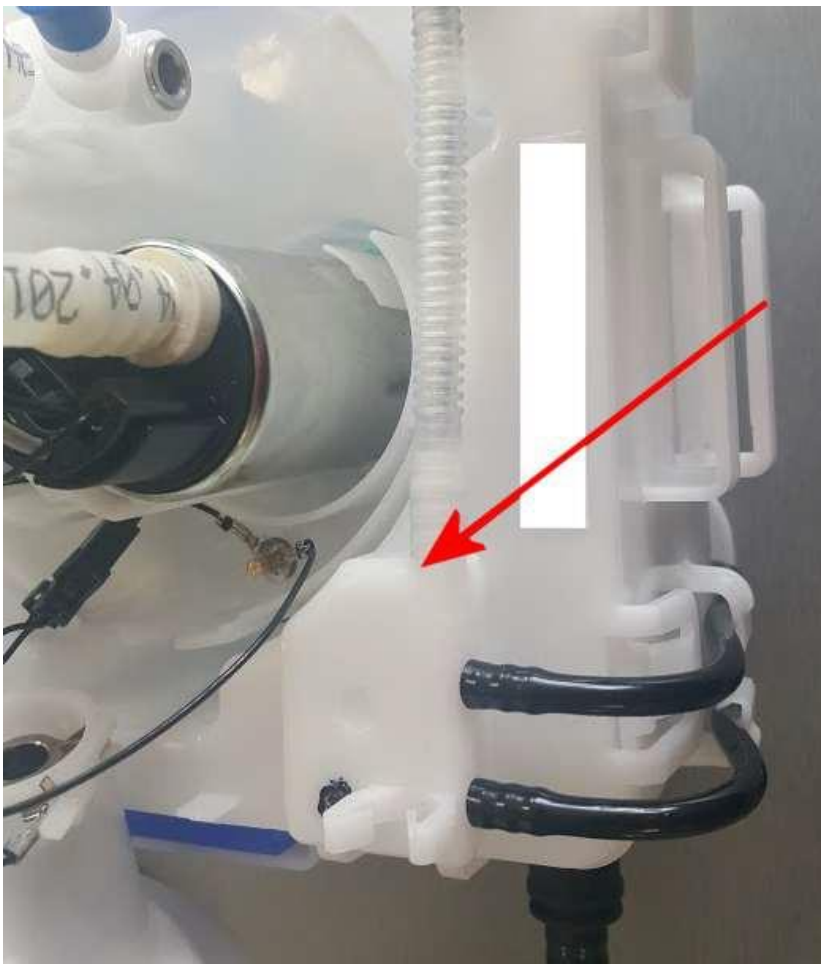

Figure 7
4) Referring to Figure 7 (For photographic purposes Figure 7, was taken with the fuel pump assembly removed from the fuel tank) Check the connection shown is not broken NOTE: Care should be taken when checking this part as damage can be caused when manipulating the fuel pump assembly